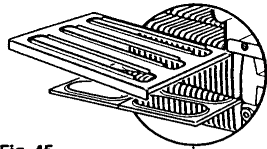

Fig. 45
1. Remove the top and the centre baffles from the heat exchanger, noting their orientation (Fig. 45).